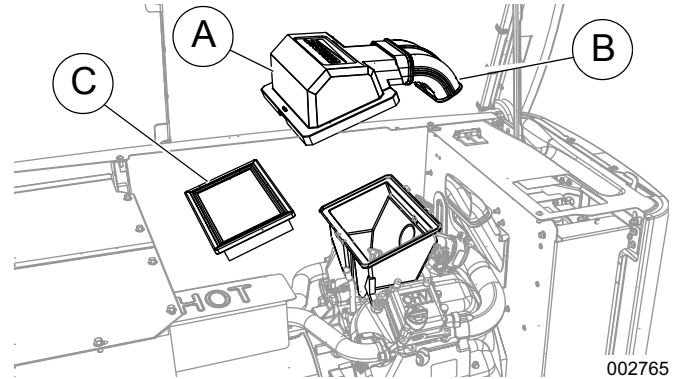

Figure 6. Removing the Airbox Cover (11–22 kW)
1. See Figure 6. Remove the airbox cover (A), intake elbow (B), and air filter (C).